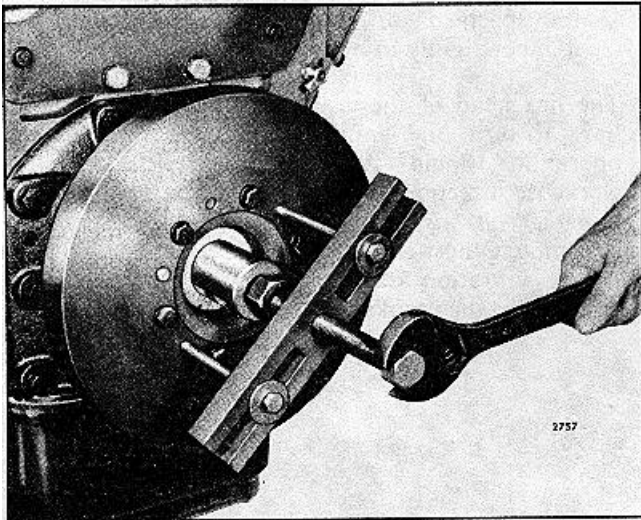

FIG. 1 - Removing Vibration Damper Outer Cone from a 12V Engine
4. Attach puller J 24420 to the vibration damper hub. as shown in Fig. 1, with two long bolts threaded into the two 3/8 "-24 tapped holes provided in the hub. Pull the damper and hub assembly together with the outer cone, until the outer cone is loose on the crankshaft. On the rubber type vibration damper (Fig. 1), remove two damper-to-hub bolts and lock washers diametrically opposite to each other and attach the puller with two long 7/16 "-20 bolts.